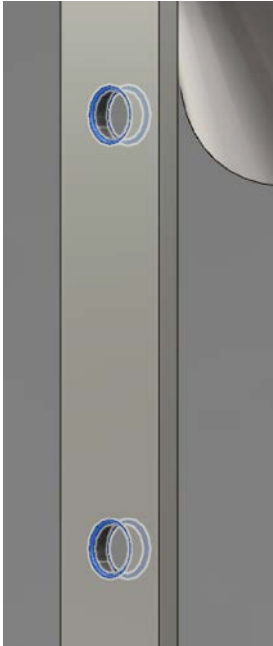

Fig. L16
18. Add fillets to the edges of the holes (Fig.L16).